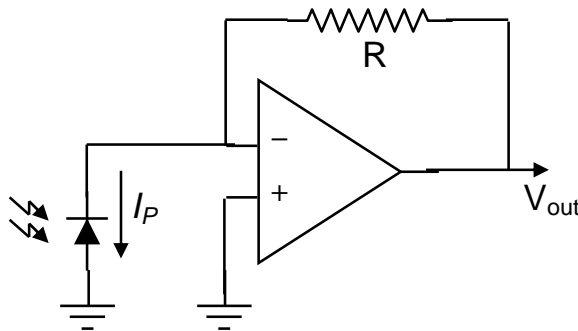
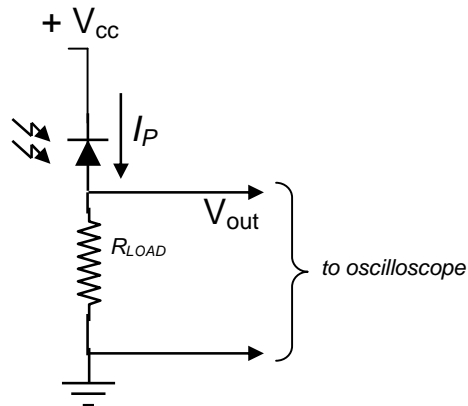
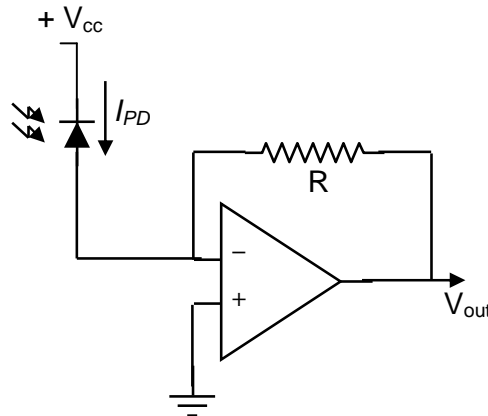

Figure 10.10: Photodiode with an op-amp current-to-voltage inverting amplifier.
Figure 10.11: Photodiode in reverse-bias configuration with resistive load.
Figure 10.12: Amplified photodiode in reverse-bias configuration
As the voltage which the photodiode must produce becomes larger, the output current of the photodiode no longer remains proportional to the light intensity. An op-amp remedies this problem by keeping the voltage across the photodiode equal to zero for all light intensities, while also amplifying the signal in the current-to-voltage converter circuit of figure 10.10.
The PN junction capacitance of the photodiode can be reduced significantly by using a reverse-bias voltage on the photodiode, as shown in the circuit diagram on the right (figure 10.11). Since the capacitance drops, so does the time response (still $\tau = RC$) of the photodiode. In practice, the fastest photodiodes have very small detection areas and are
One problem with the simple reverse-bias circuit of figure 10.11 is that as the photo-current increases at higher light intensities, the effective biasing voltage across the PN junction changes as well, which introduces a non-linear response into the behavior of the photo-detector. An op-amp can be used to keep the photodiode reverse-bias voltage constant for all illumination intensities, while also converting the photo-current to an amplified voltage (see figure 10.12).
3. In the same manner as part 2, construct the circuit of figure 10.11 such that the current-to-voltage conversion is $10 \text{ mV}/\mu\text{A}$ and the bias voltage is + 15 V. Measure the rise time and fall time of the photo-current signal. Estimate the capacitance of the photodiode. Repeat for the bias voltage values equal to (+2 V, +5 V, +8 V, +11 V).
4a. In the same manner as part 2, construct the circuit of figure 10.10 or figure 10.12 (you pick) with an LM741CN op-amp and a gain of $10 \text{ mV}/\mu\text{A}$. Measure the rise time and fall time of the photo-current signal, and estimate the effective capacitance of the photodiode.